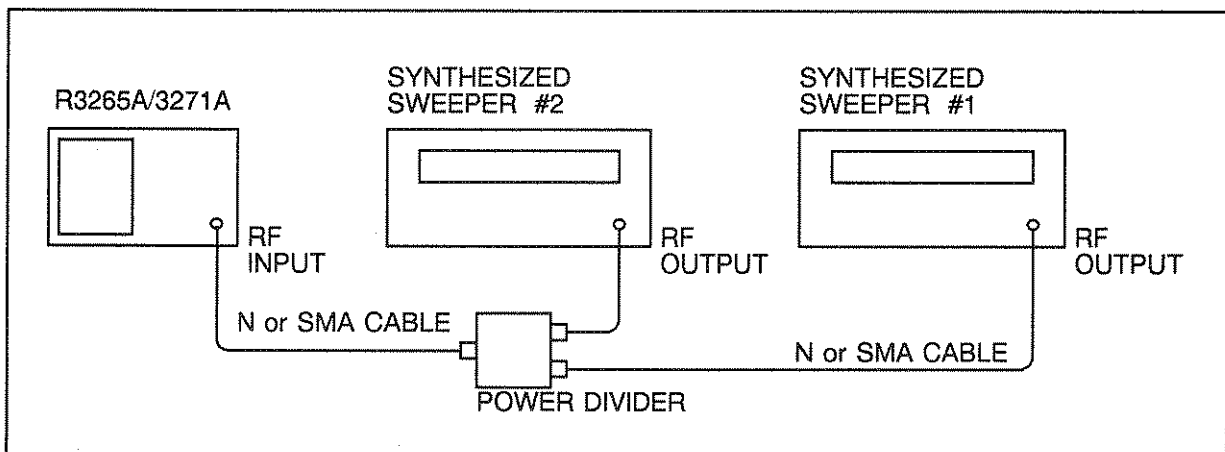

Figure 4-12 Third Order Intermodulation (<300 MHz) Test Setup
(1) Select power divider #1 and connect the units as shown in Figure 4-12.
(2) Press the **INSTR PRESET** key on each synthesized sweeper. Set each of the synthesized sweeper controls as follows: